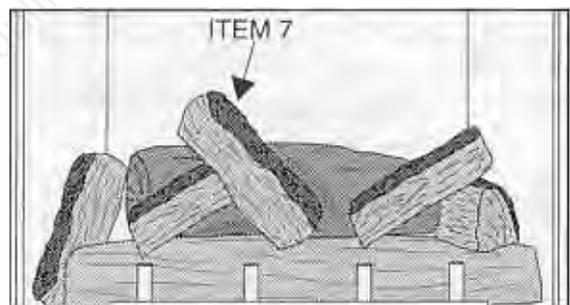

Figure 67
8. See Figure 67. Position the large straight Log (Item 7) with the "bark" of the log to the right. Place the front end of the log in the center indentation of the Front Log. Place the opposite end at an angle (to the left) near the left edge of the Back Log.